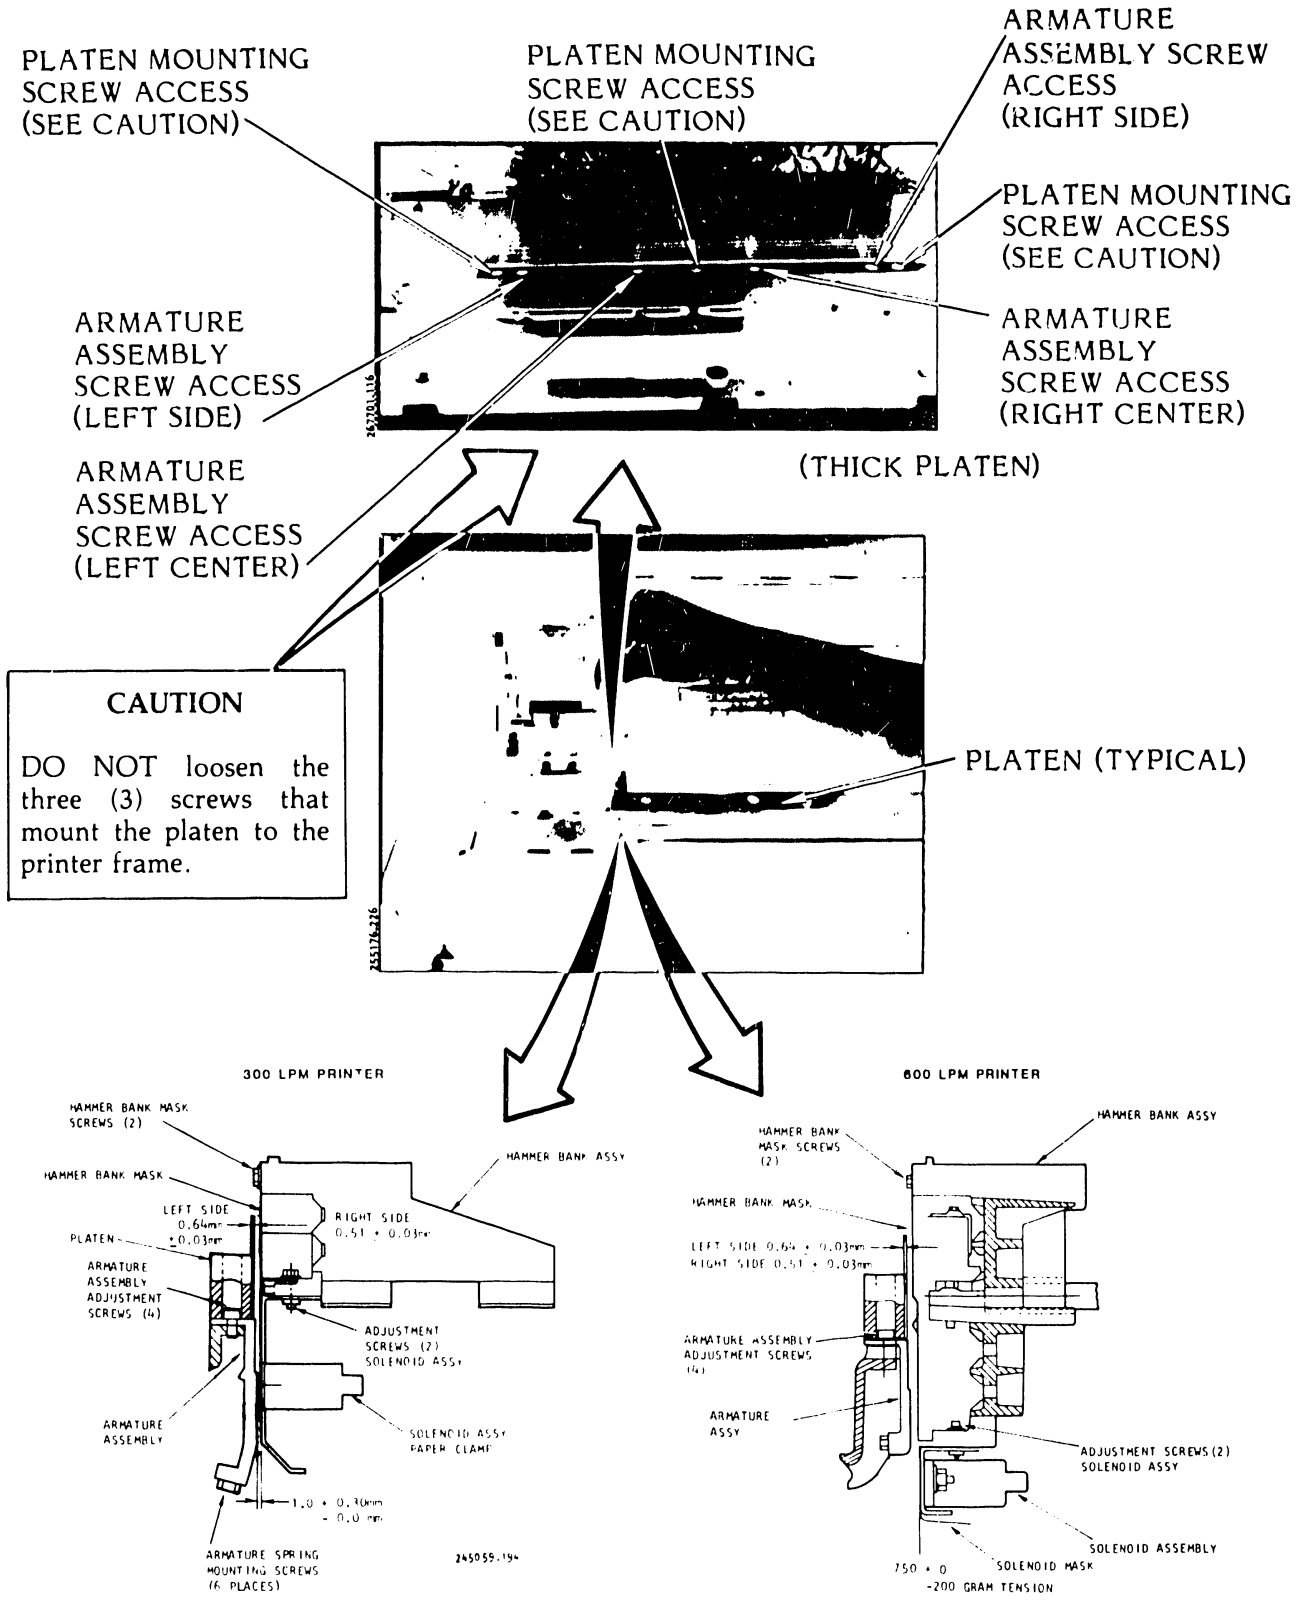

Figure 3-48. Paper Clamp Armature Assembly Adjustment, Thick Platen
- i. See figure 3-48 for the thick platen/armature plate configuration of your printer. If your printer contains the thin platen proceed to step j, otherwise, adjust the thick platen and armature plate ridge dimensions as follows: